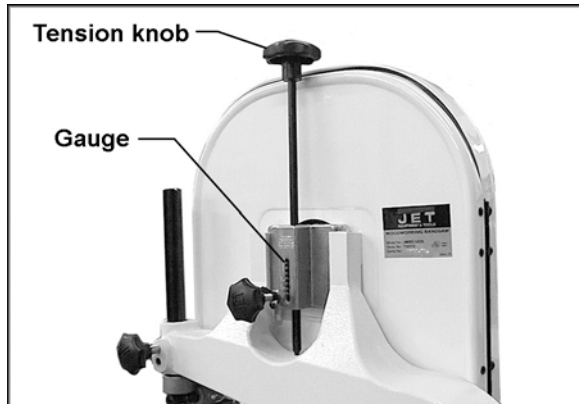

Figure 28
2. Loosen blade tension by turning the tension knob counterclockwise (Figure 28).
2. Turn blade tension knob (Figure 28) clockwise to tension blade. A gauge on the